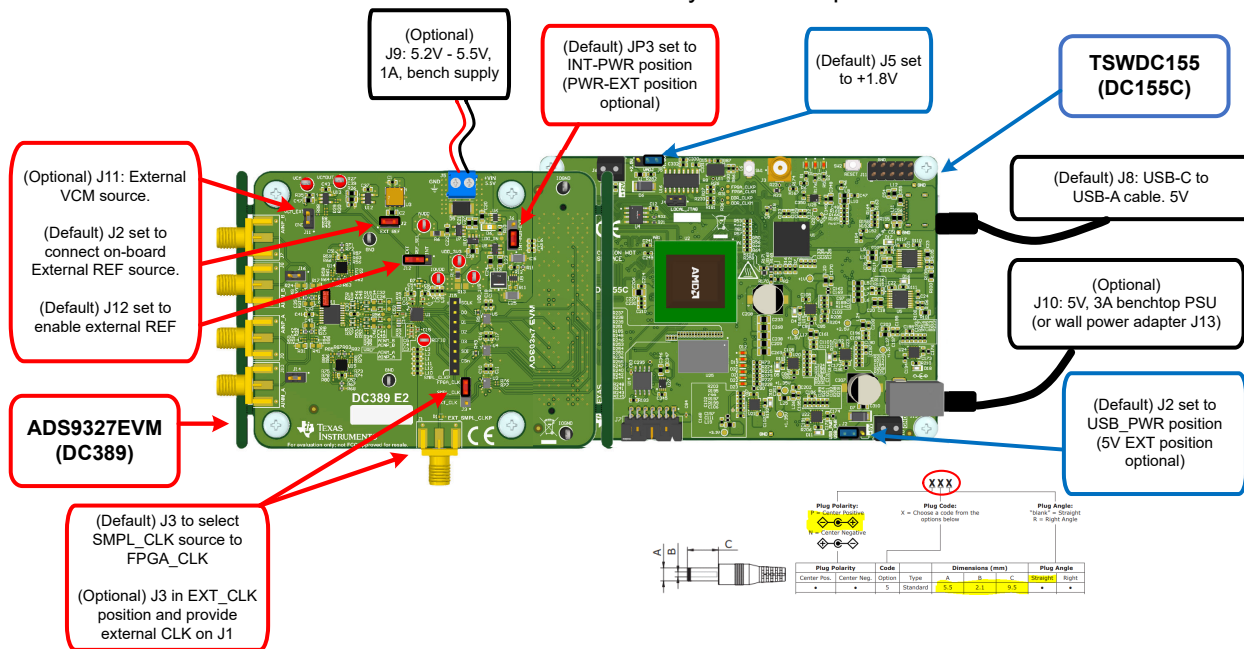

Figure 2-1. Connecting the Hardware
The following instructions are a step-by-step guide to connecting the ADS9327EVM to the computer and evaluating the performance of the ADS9327. Review the default jumper settings and power guidelines in Figure 2-1.
1. Physically connect J1 of the TSWDC155EVM to the J4 of the ADS9327EVM. The TSWDC155EVM is the digital communications and power signal connection in the default configuration in Figure 2-1.